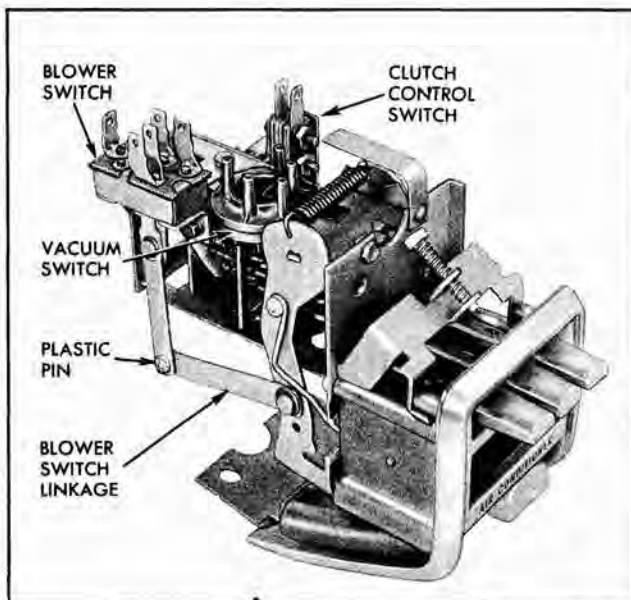

Fig. 5-43 Control Panel Blower Switch and Linkage
3. Remove blower switch and switch lever arm as an assembly by removing the two switch attaching screws (Fig. 5-43).